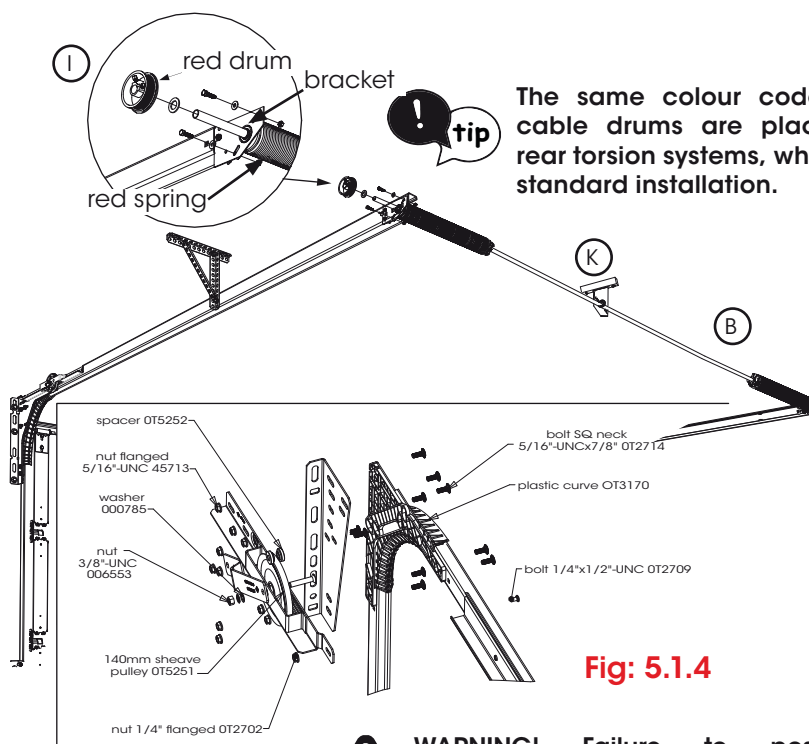

Fig: 5.1.4
Assemble the track, with cable pulley as shown in Figure 5.1.4. The curve must align and butt up against the vertical track snugly.
- Connect the side bearing brackets to the end of the horizontal tracks using $\frac{3}{8}$ " and $1\frac{1}{2}$ " hexagonal head bolts and $\frac{3}{8}$ " washers and nuts. Fig 5.1.4.
- Slide the torsion bar (B) of the torsion assembly through one side bearing bracket and then the other.
- Secure the spring anchor bracket (K) firmly into a solid foundation directly or through the use of a steel angle to timber beams onto the ceiling, ensuring the 'cut corner' is pointing in the direction of the opened door.